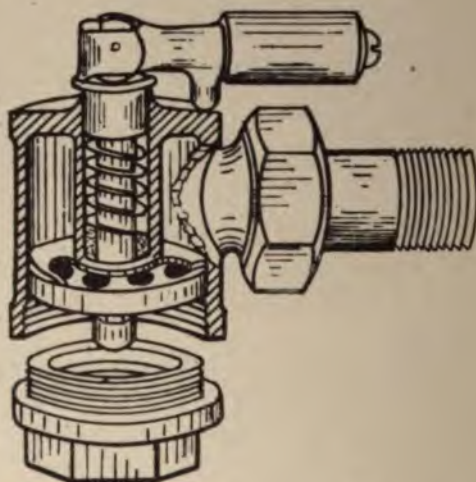
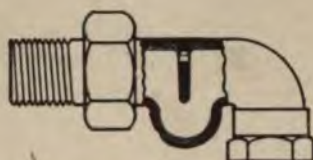

Fig. 112.—Quintuple Valve—Broomell System.
Fig. 113.—Union Elbow—Broomell System.
A. At the supply end a special type of radiator valve called a quintuple valve is used and is so named from the fact that each valve has five holes or ports through the seat, and the handle which opens and closes the valve may be moved to open or close one, two or more of these ports as desired. At the return end of the radiator joining it to the return line is placed a special form of union elbow. Fig. 112 shows a sectional view of the valve and Fig. 113 the union elbow.